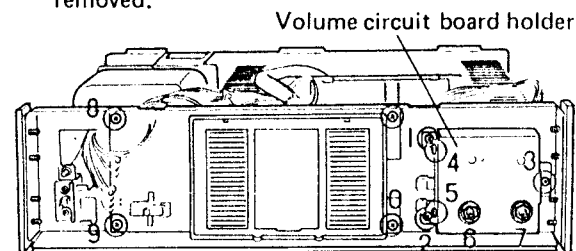

Fig. 4
- a. Remove screws ① through ③ in Fig. 4 and remove the volume circuit board holder.
- b. Remove screws ④ and ⑤ and hexagonal nut ⑥ and ⑦ in Fig. 4, the VR circuit board may be removed.
- a. Remove screws ⑧ through ⑪ in Fig. 4 and remove the meter circuit board, and then take off three illumination lamps of the meter circuit board.